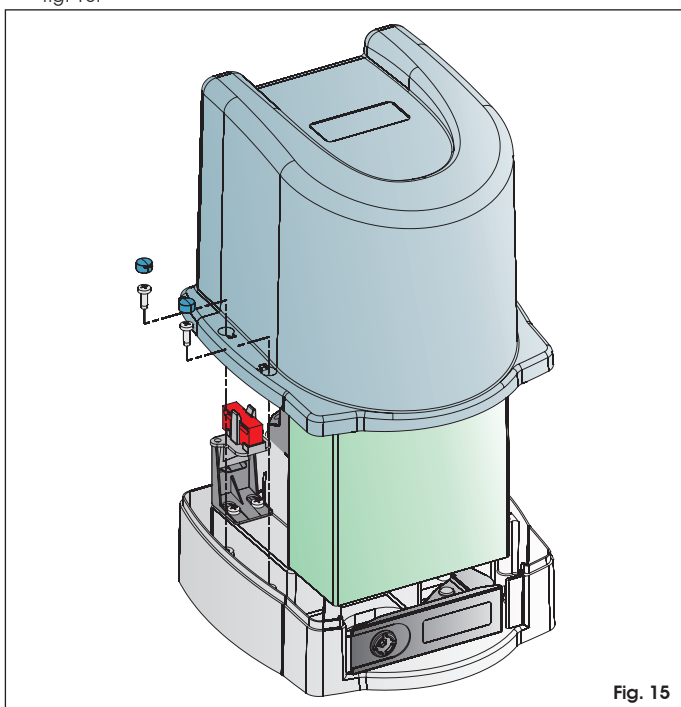

Fig. 15
3. When you have run the automated system test (par.5), secure the protective housing on the operator, using the supplied screws as shown in fig. 15.